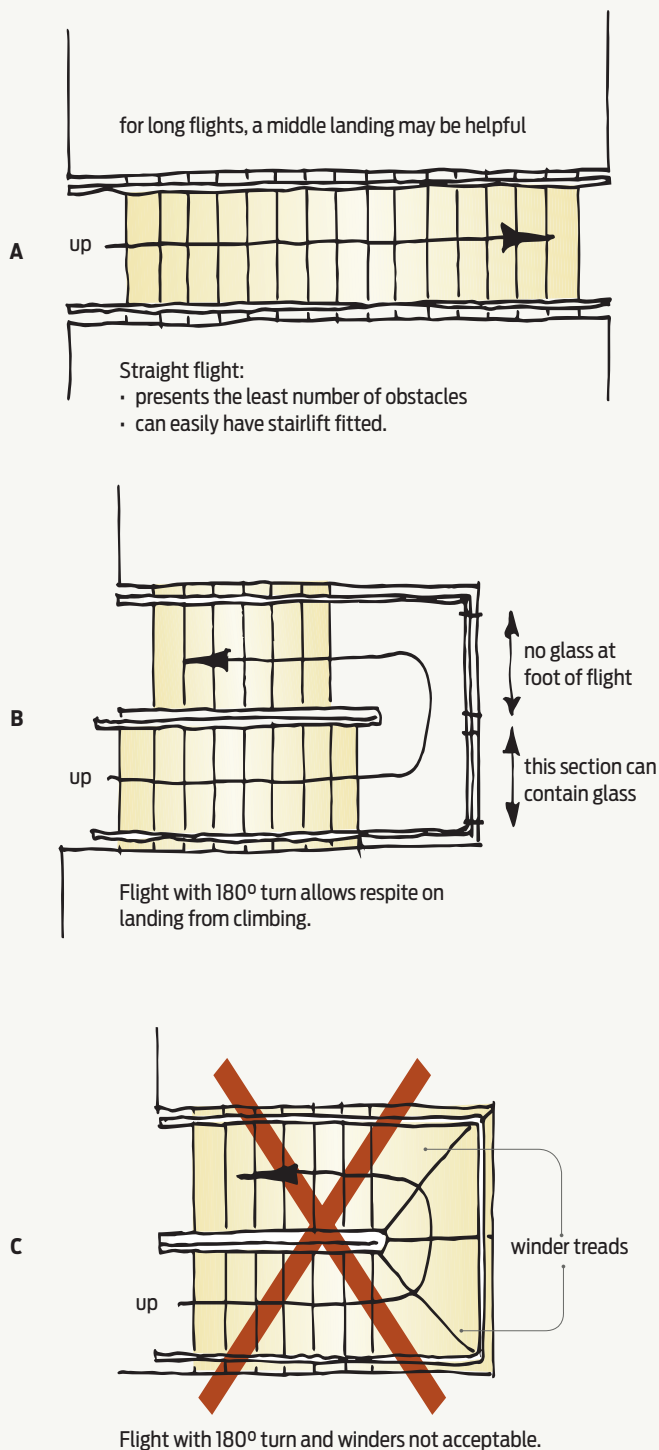

Figure 31 Some stair arrangements.
- do not use winder treads (see Figure 31).